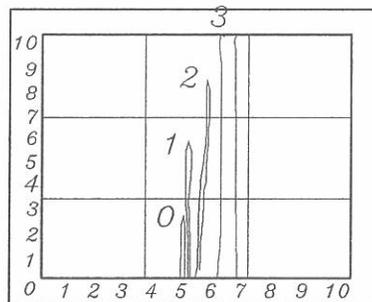

FIG 22
15. Once sufficient signal differences have been achieved between the good and bad parts, the vertical and horizontal threshold levels may need to be moved (controls 19 and 20) so that the good and bad pieces fall into different test blocks as displayed in Figures 22 and 23. All it takes is the width of one line between signals to activate separate gates.